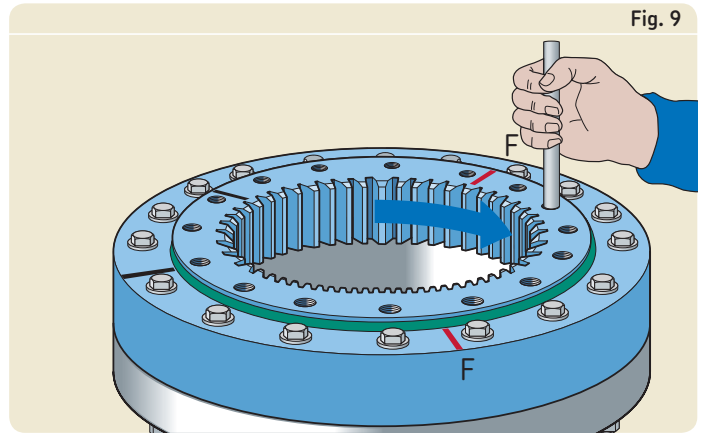

Fig. 9
- 9 Check for correct installation by turning the “free” ring (→ **fig. 9**). The torque, which might be high due to preload, grease and friction of the seals, should not show any excessive variation or “tight spots” during rotation. If the torque varies excessively, check the ovality of the bearing, and correct if necessary.